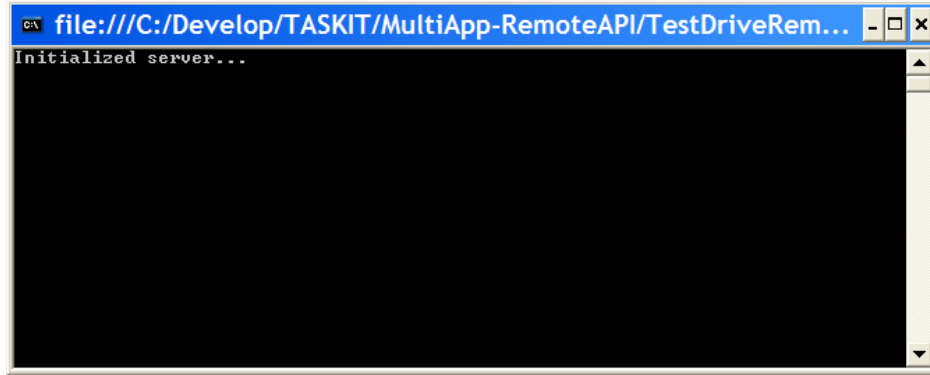

Figure 4-29 Server Initialization Window
1. Start the Server. The *Command* window displays, as shown in Figure 4-29.